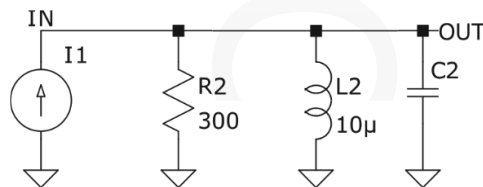

Figure 4: Frequency Response of Parallel RLC circuit (Question 17(b))
- b) A SPICE frequency response analysis is to be set up for the parallel RLC circuit shown in Figure 4, with parameter value of C2 as 10 pF, 100 pF and 2000 pF respectively. Develop the SPICE circuit description for this task. The source is a current source. Assume amplitude of AC exciting source to be 5 mA, and the frequency range to be from 10 Hz to 100 Megahertz. Assume 50 steps per decade.